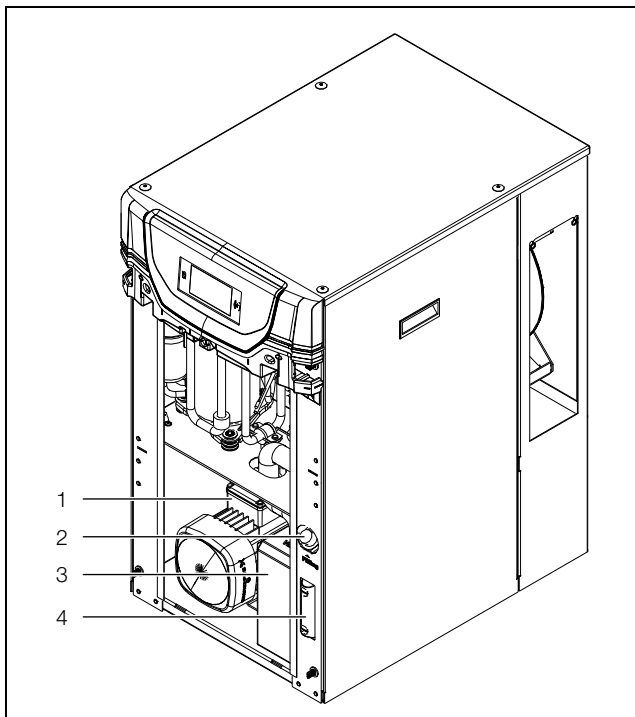

Fig. 20: Filling the cooling medium
- Fill the chiller tank with cooling medium via the fill nozzle (fig. 20, item 2).
- Check the fill level on the inspection glass (fig. 20, item 4).